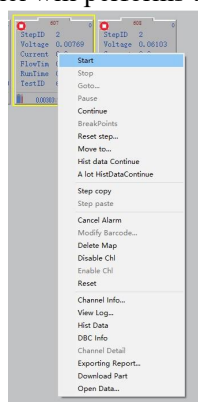

Figure 4-20 Start interface
2. On the right-click menu (as shown in Figure 4-20), you can set step parameters, record conditions, protection conditions, and professional protection parameters. When the condition is reached, the channel will performs the corresponding operation.